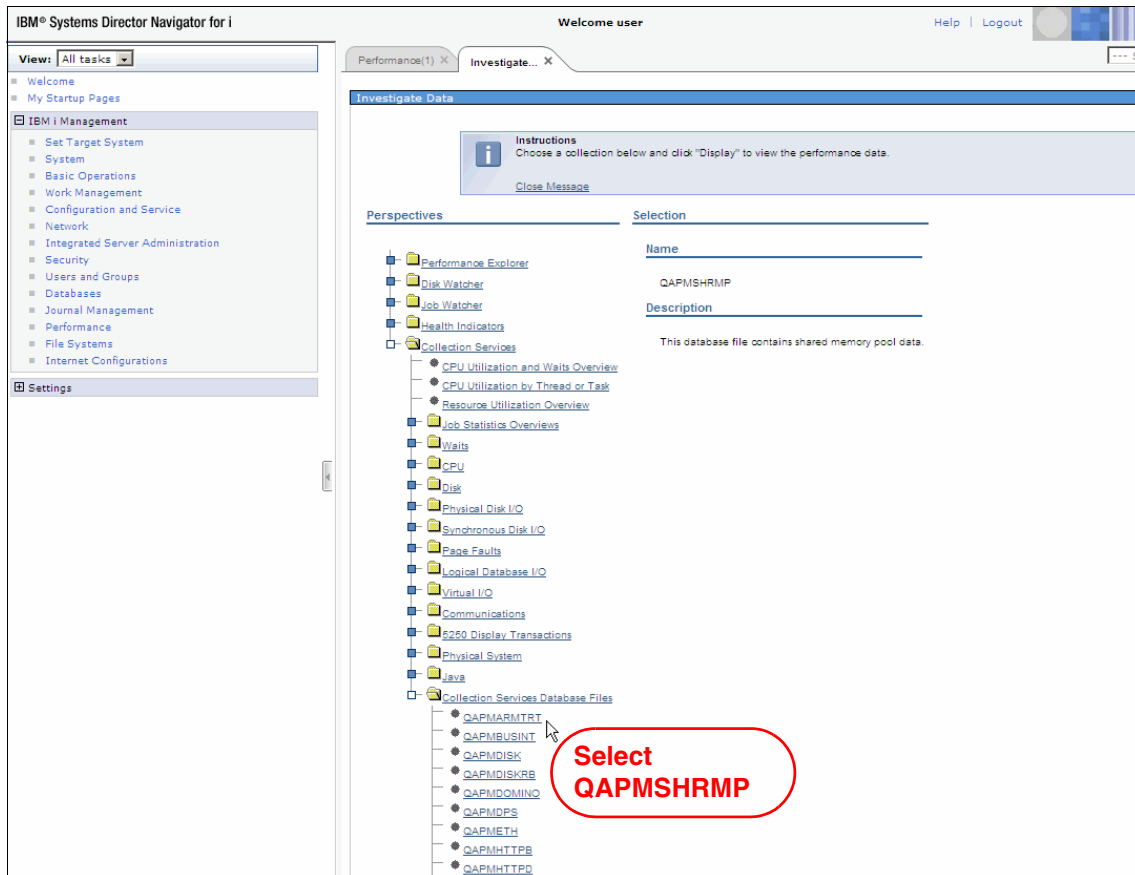

Figure 5-10 Systems Director Navigator for i performance collection data
2. Click **Performance** → **Investigate Data** → **Collection Services** → **Collection Services Database Files** → **select QAPMSHRMP**. Select the Collection Library and Collection Name and click **Display**, as shown in Figure 5-10.